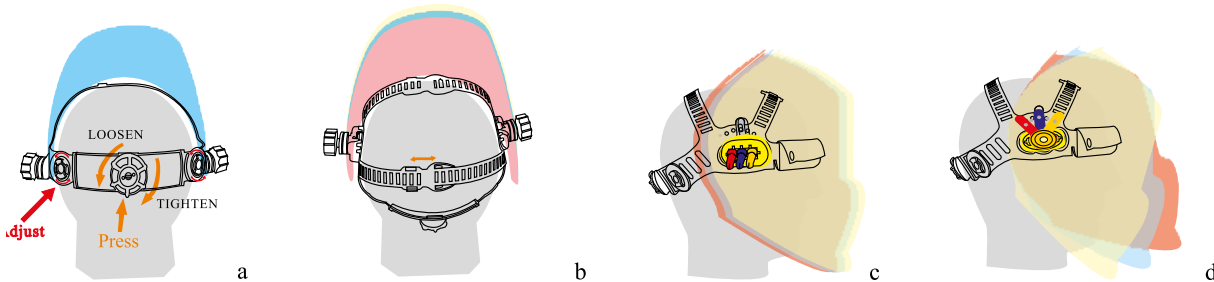

Figure 2
7. Adjust the head gear (see figure 2):